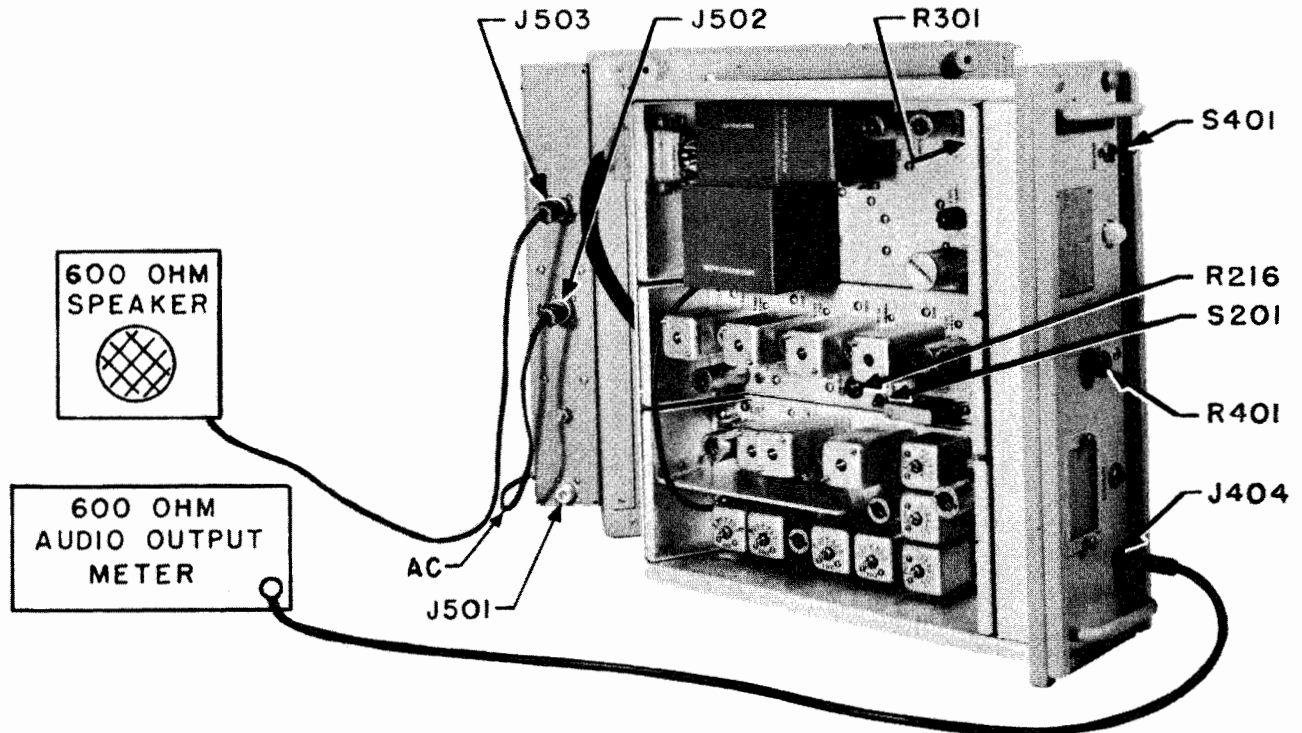

Figure 7-3. Preparation for Alignment, Top View and Rear Compartment
(4) Connect an audio load to the AUDIO receptacle J503, located on the rear panel of the cabinet. This load can be a speaker, an audio output meter, or a resistance of from 200 to 600 ohms impedance. (See Fig. 7-3.)
(5) Throw noise LIMITER switch S201, located on the IF chassis, to OFF. (See Fig. 7-3.)
(6) Turn SQUELCH threshold control R216, located on the IF chassis, open (fully counterclockwise). (See Fig. 7-3.)
(7) Plug a 600 ohm audio output meter into the headphone jack J404, located on the front panel. (See Fig. 7-3.)
(8) Turn PHONES level control R401, located on the front panel, to maximum (fully clockwise). (See Fig. 7-3.)
(9) Turn AF LEVEL control R301, located on the Audio/Power Supply chassis, to approximately 50 per cent of maximum clockwise rotation. (See Fig. 7-3.)
(10) Connect line from the AC power source to the AC POWER receptacle J502, located on the rear panel. Throw POWER switch S401, located on the front panel, to ON. (See Fig. 7-3.)